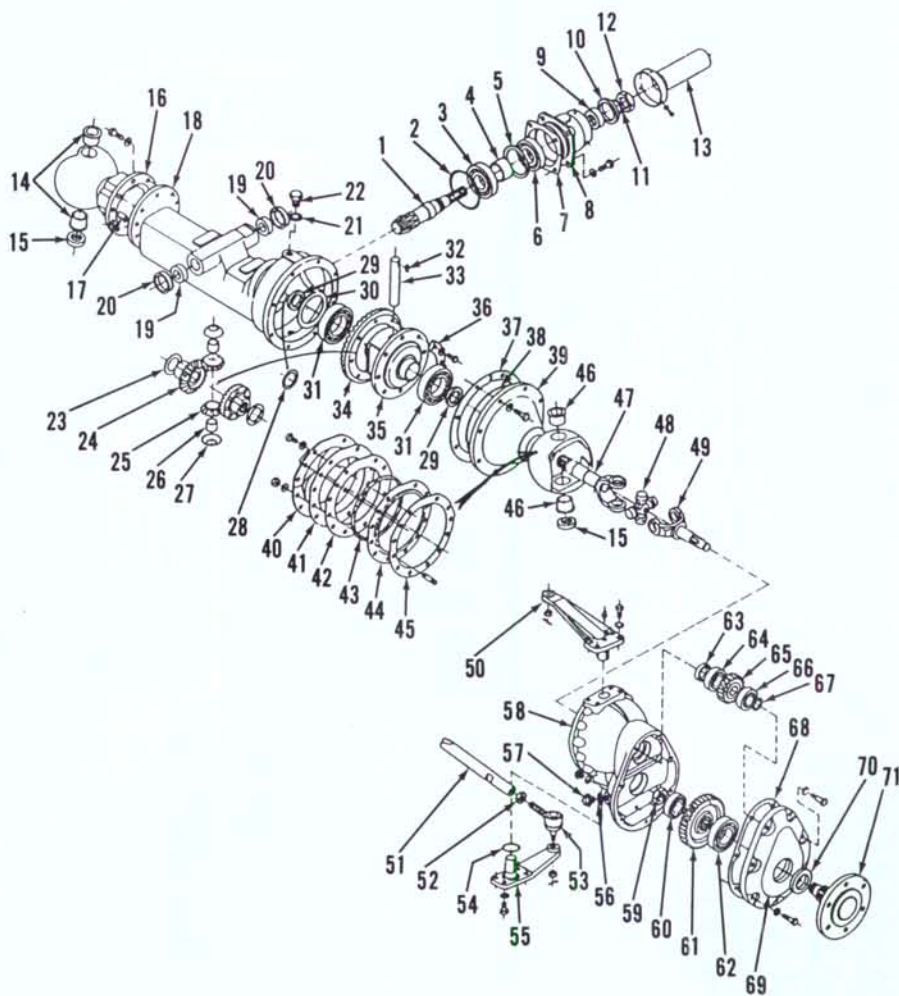

Fig. 5—Exploded view of front-wheel drive axle used on Model L225DT.
6. R&R AND OVERHAUL. To disassemble outer drive assembly, first remove wheel from side to be serviced. Remove cap screws securing outer cover (69—Fig. 5) to housing (58), then withdraw cover with components (59, 60, 61, 62, 70 and 71) and allow oil to drain into a suitable container. Remove nut (59) from wheel axle (71) to separate components.